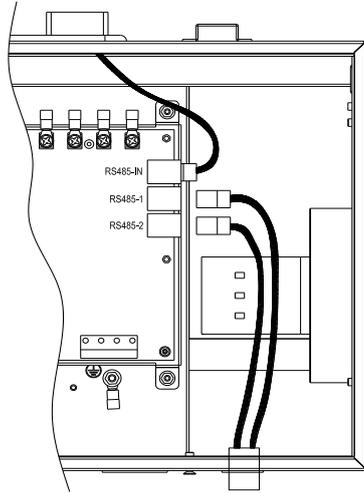

Figure 3-21 Diagram of communication wiring
(5) The communication connection inside the Wiring box of the inverter is shown in Figure 3-21: